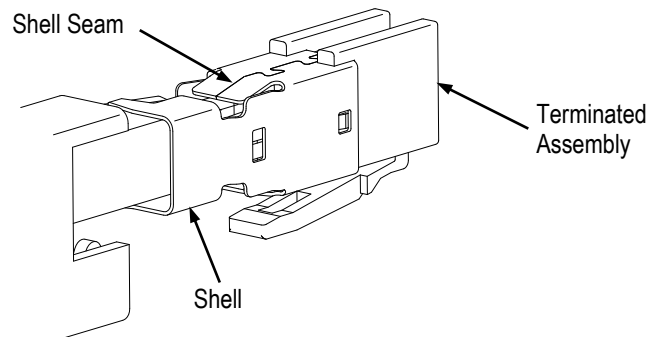

Figure 5
5. After termination, slide the shell over the module assembly and bottom. In order to ensure that the shell is oriented properly for placement in the crimping tool, make sure the shell seam is opposite the plug latch prior to insertion of the plug body. See Figure 5.